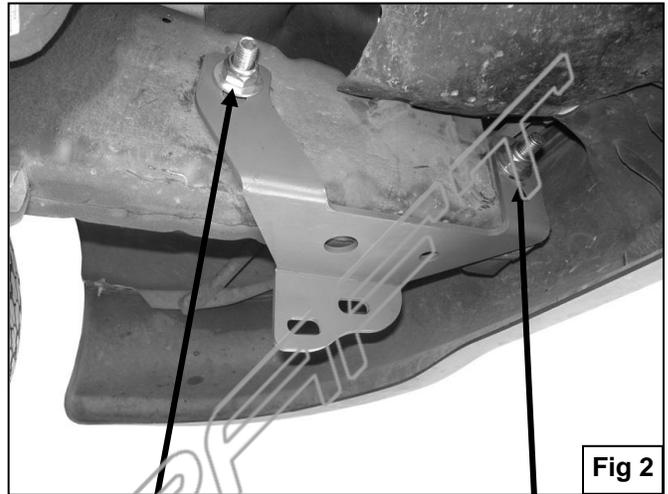

Fig 2
5. Position Mounting Bracket on the inside of frame rail and secure the rear of Bracket to frame using the included (1) 12mm x 140mm Hex Head Bolt, (1) 12mm Lock Washer, (1) 12mm Hex Nut, (2) 12mm Flat Washers, and (1) Square Washer (**Figure 2 & 3**). **NOTE:** Place Square Washer on the outer side of frame.
7. Attach the front end of Bracket to Bolt Plate using the included (1) 12mm Hex Nut, (1) 12mm Lock Washer, and (1) 12mm Flat Washer (**Figure 2**).
13. Starting on the driver side of the vehicle, position Mounting Bracket on the inside of frame rail and secure the rear of Bracket to frame using the included (1) 12mm x 140mm Hex Head Bolt, (1) 12mm Lock Washer, (1) 12mm Hex Nut, (2) 12mm Flat Washers, and (1) Square Washer (**Figure 2 & 3**). **NOTE:** Place Square Washer on the outer side of frame.
15. Attach the front end of Bracket to Bolt Plate using the included (1) 12mm Hex Nut, (1) 12mm Lock Washer, and (1) 12mm Flat Washer (**Figure 2**).